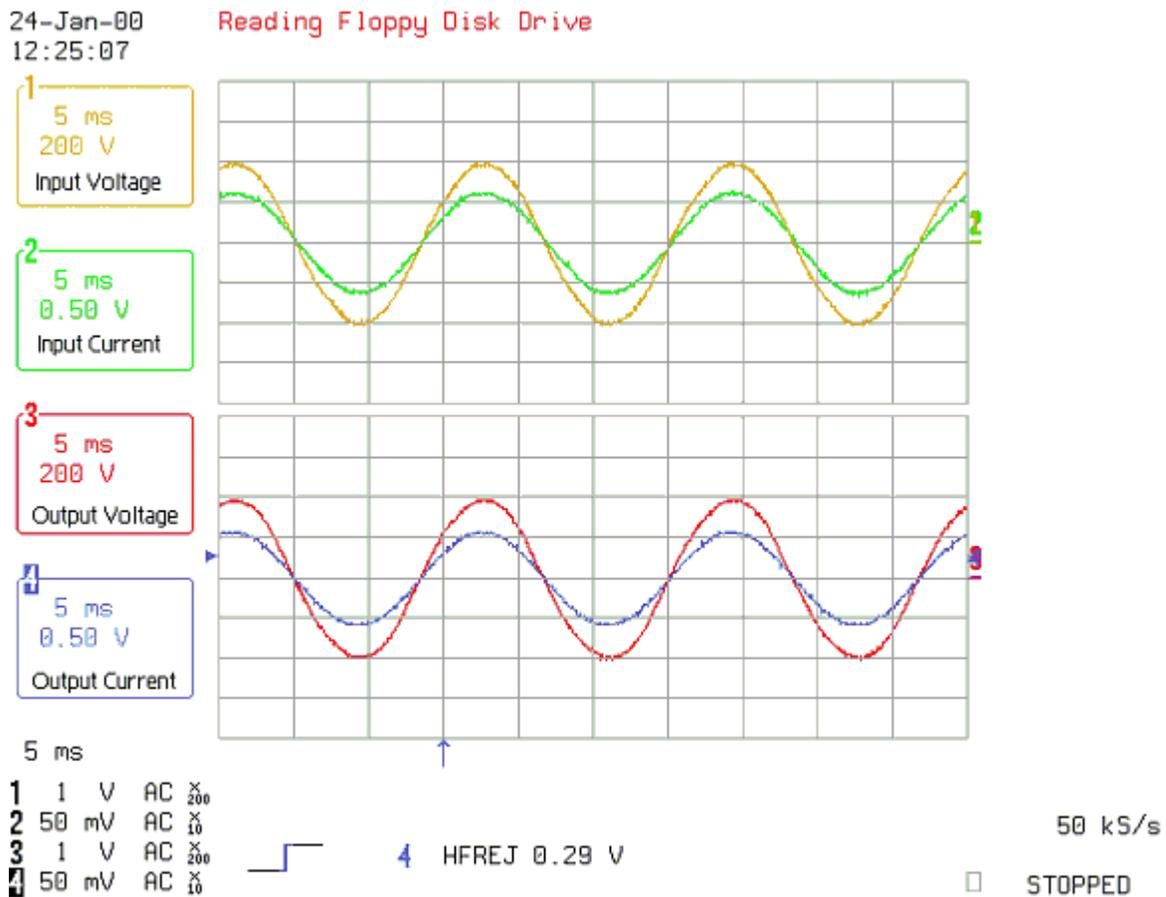
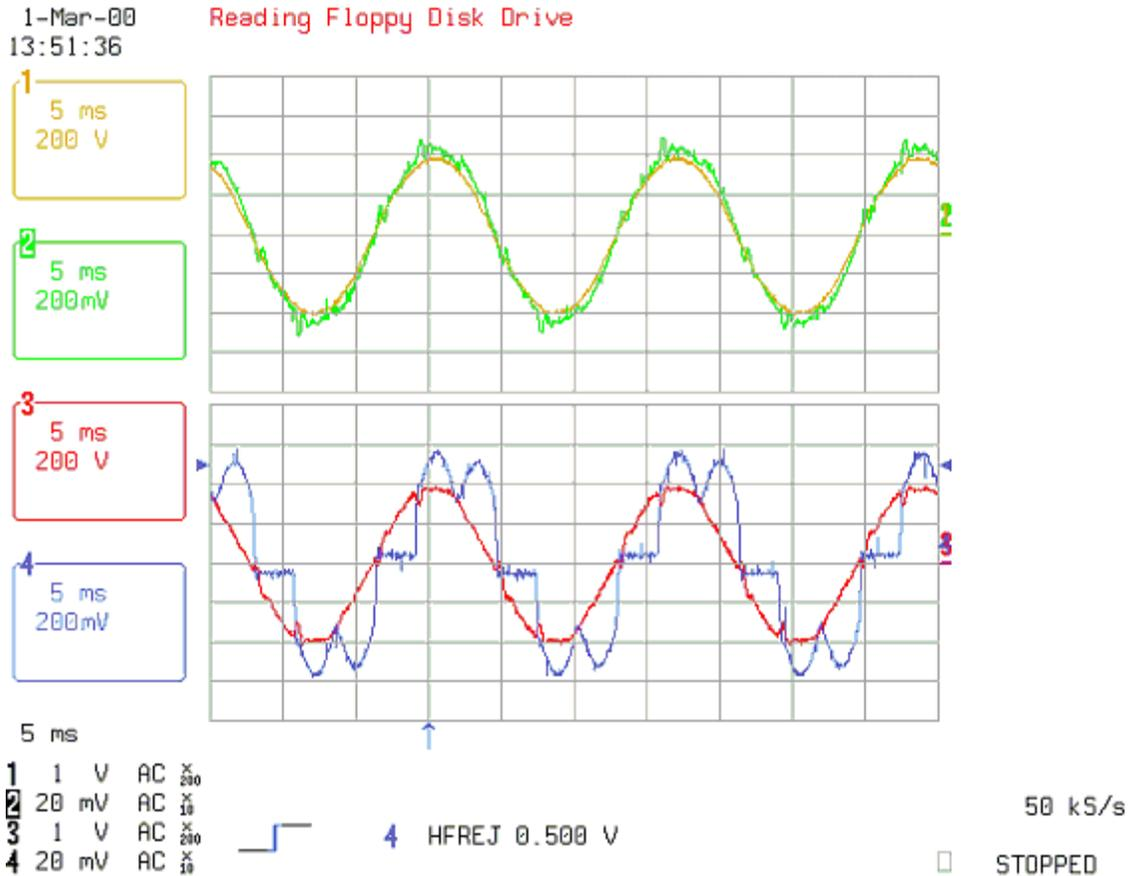

Figure 1 - 160kVA Delta Conversion Online™ @ 100% kW load
Figure 2 - 160kVA Delta Conversion Online™ @ 100% kVA Nonlinear Load
The input to a 160kVA APC Delta Conversion Online™ UPS is shown in figure 1. As you can see both input and load power factor are ideal, i.e., ~1.0. Meaning neither the UPS nor its load is drawing any reactive current components. The same 160kVA unit is shown in figure 2, powering a non-linear 6-pulse rectifier load. Actually a competitor's 225kVA double conversion UPS.
As we can see in figure 2, this is a horrible load for any power source. The notching in the output voltage waveform is caused by the load, i.e., the commutation of the SCR's in the rectifier/charger of the double conversion UPS. This same current waveform is very common for other three phase electronic loads like adjustable speed drive (ASD) or variable frequency drives (VFD). (4)